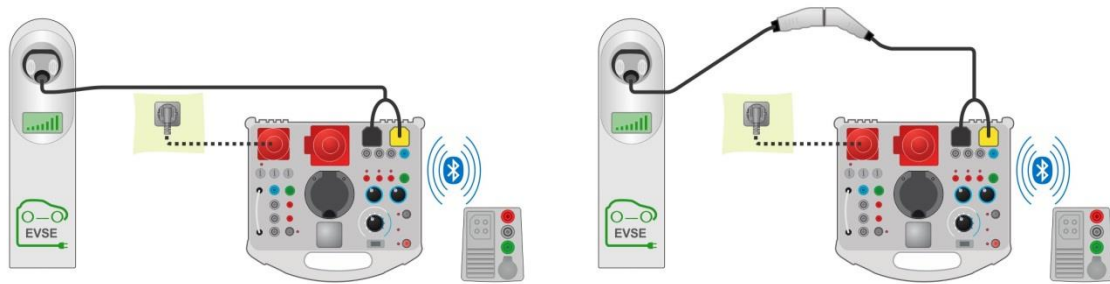
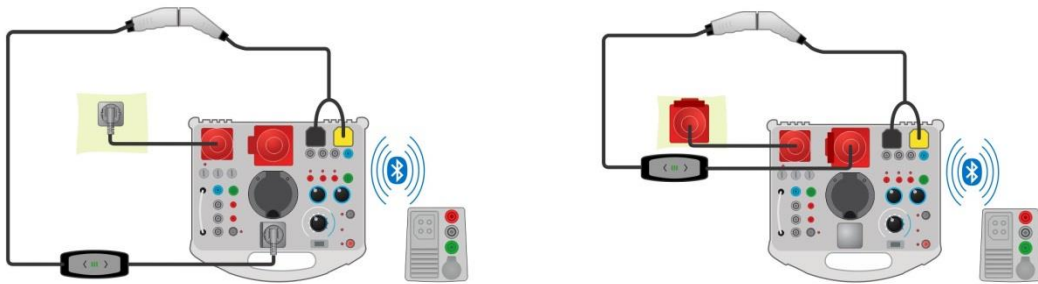
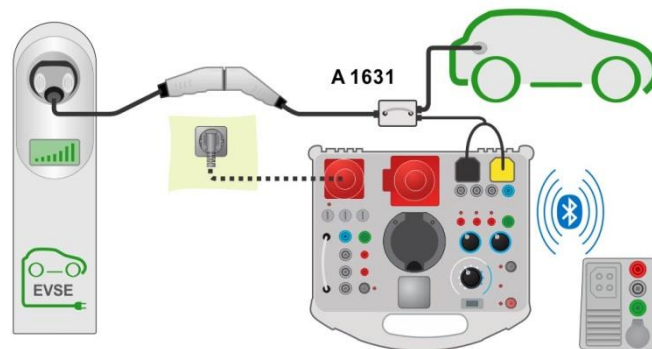

Figure 7.86: Diagnostic test - EV simulator and Errors sub-tests - connection to EVSE
Figure 7.87: Diagnostic test - EV simulator and Errors sub-tests - connection to Mode 2 charging cable powered from Analyser
Figure 7.88: Diagnostic test (EVSE) - Monitor sub-test - connection to EVSE or charging cable
- ▶ Connect the charging cable / station to A 1632 eMobility Analyzer adapter. See *Figure 7.86*, *Figure 7.87* and *Figure 7.88*. Refer to *A 1632 eMobility Analyzer Instruction manual* for detailed information.